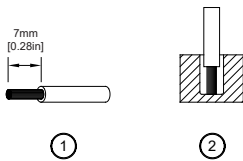

Figure 4
(1)	0.82 - 5.3	18-10	0.45	3.91
(2)	3.3 - 5.3	12-10
To secure reliable and shock proof connections, the stripping length should be 7 mm [0.28 in] (see Fig. 4 (1)). Please ensure that wires are fully inserted into the connecting terminals as shown in Fig. 4 (2).